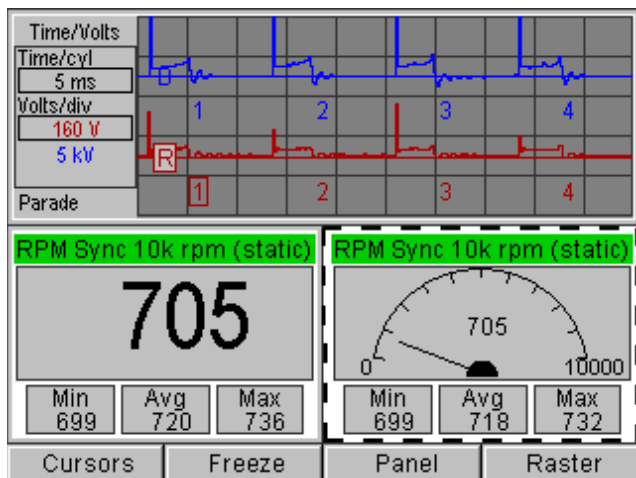

Figure 8.22: Ignition Scope Screen, DMM On - All Panels Displayed
- 9 With the DMM panel selected, refer to the steps in DMM Setup and Display on page 36 and set up the DMM panel(s). After all the panels are set up, the screen looks similar to Figure 8.22.